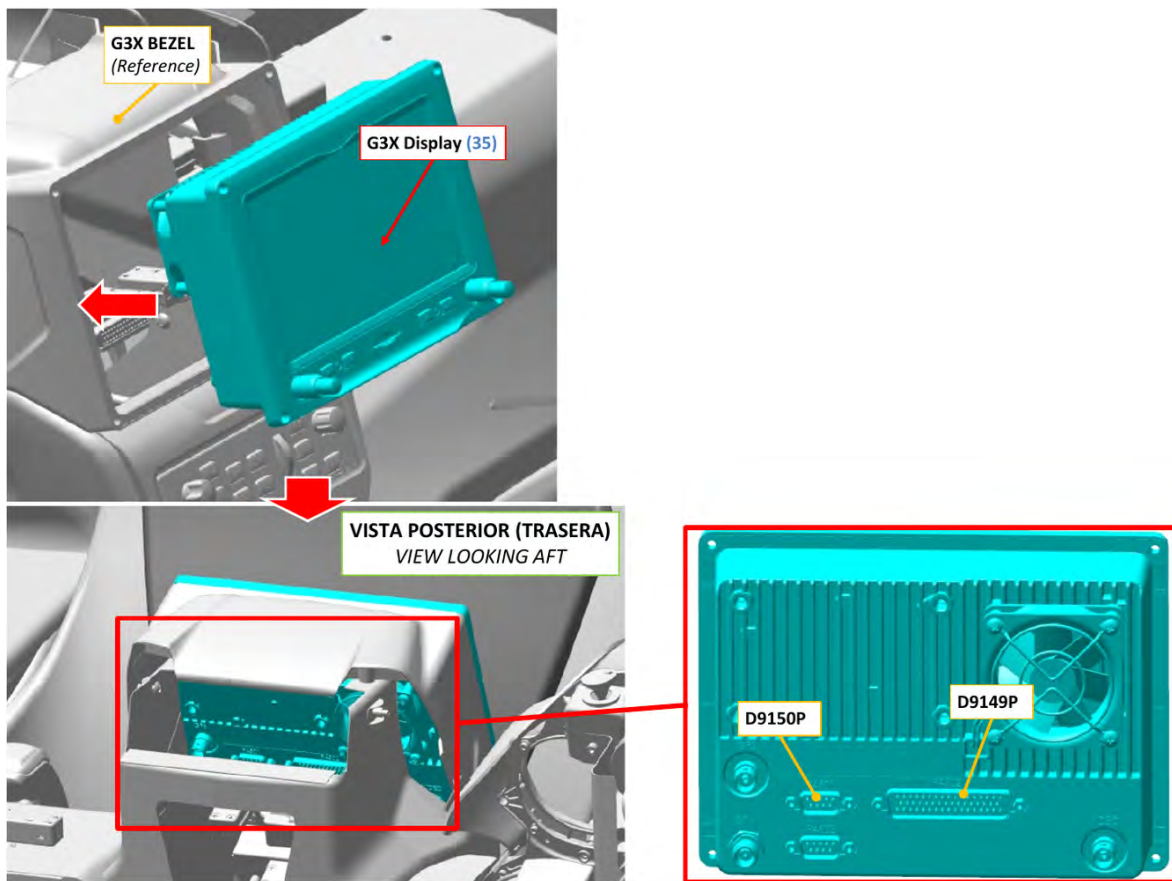

FIGURE 14-43
3. Remove G3X Display from bezel. (See Figure 14-43.)